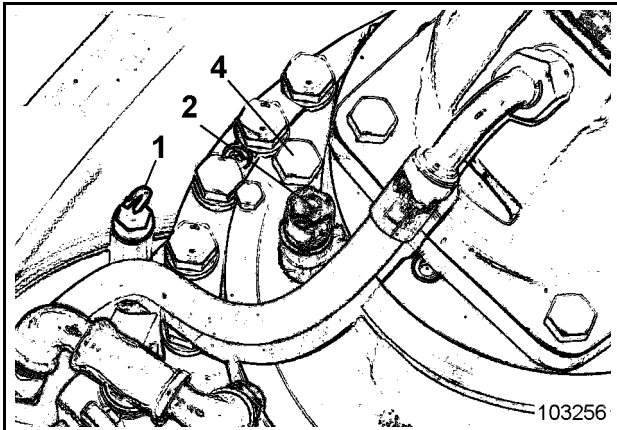

Fig. 3-82:
- Unscrew plug (4, Fig. 3-82:) and fill in new oil.
- Check oil level with dipstick (1, Fig. 3-82:).
- Screw in plug (4) again.
The gearbox is vented through breather filter (2, Fig. 3-82:).